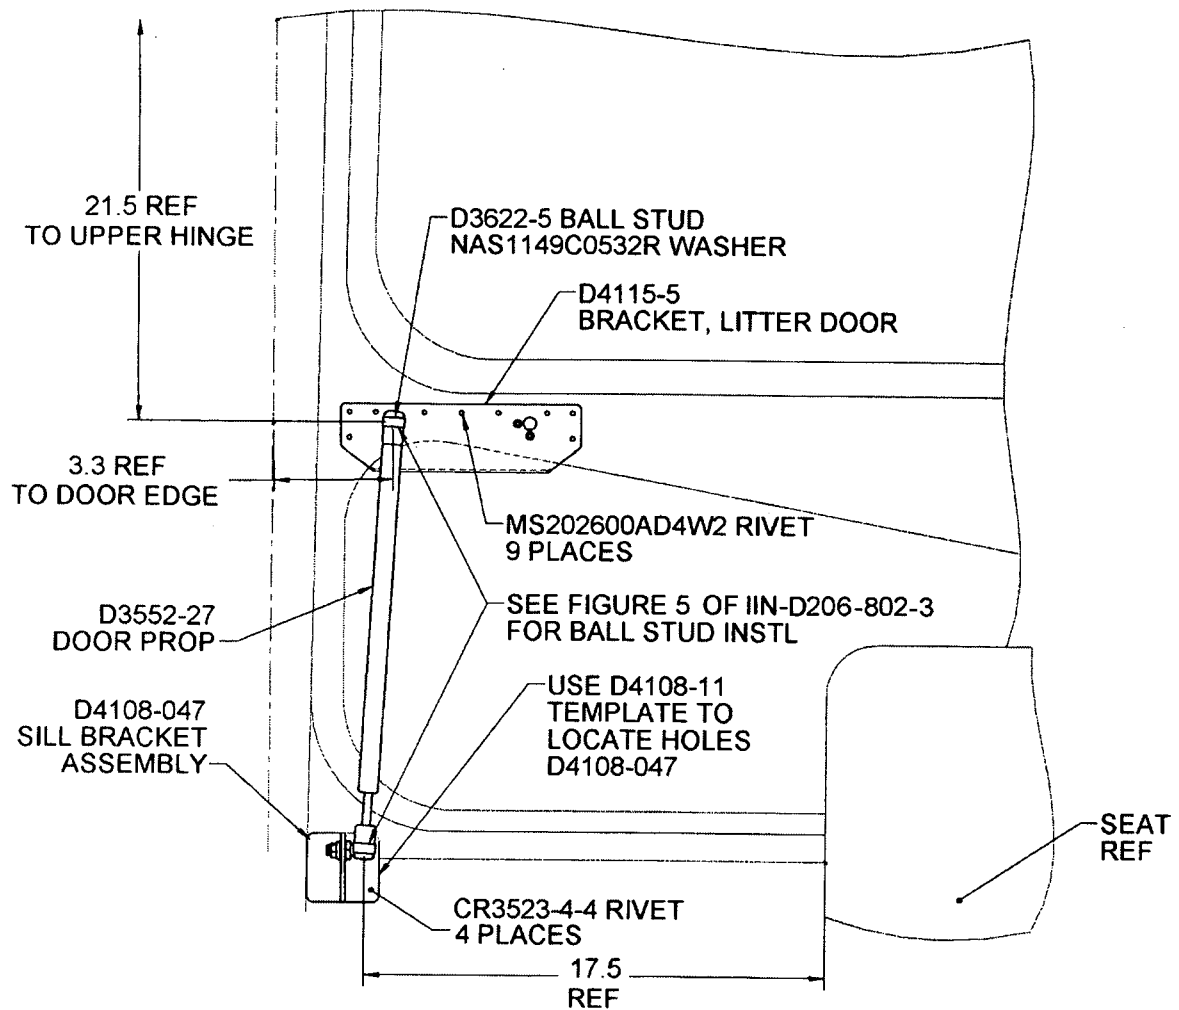

FIGURE 1: INSTALLATION OF D206-802-032 ON COMPOSITE AIRFRAME
Install D206-802-032 by replacing D4112-1 Aft Sill Doubler with D4108-047 per instructions below and Figure 1 of this Service Instruction.
- a) Using Figure 1 of this Service Instruction, locate D4108-11 Template on the edge of the door post closeout approximately 17.5" from the front of the seat. Match drill the $\varnothing 0.128$ " rivet holes (4 PL) on the door sill. Locate and drill thru template and door sill if the door sill is without existing holes.
- e) Install D4108-047 Sill Bracket Assembly by applying a thin layer of Proseal 890 and wet installing the CR3523-4-4 Rivets (4 PL) as shown in Figure 1 of this Service Instruction.